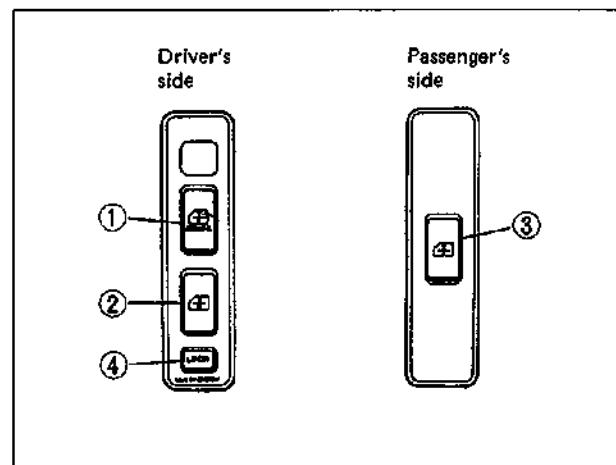

Fig. 8-70 Switch
As the power window switch is operated in one way or the other, an electric current flows to the window regulator motor to run it. Whether the motor turns clockwise or counterclockwise is determined by the direction in which the electric current flows. Thus, the window moves up or down depending on the rotation direction of the motor. The solid arrow line (\rightarrow) in Fig. 8-72 shows the electric current flow when the driver's side switch (① in Fig. 8-70) of the power window main switch is operated for upward movement and the broken arrow line ($--\rightarrow$) for downward movement.